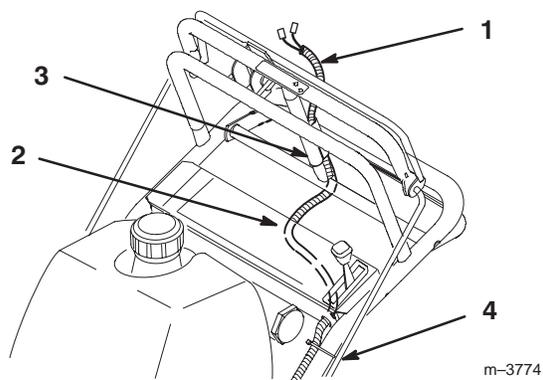

Figure 3
- Route wire harness inside of frame, along left handle and over throttle cable. Compress wire harness covering and press into lower and upper holes in rear of control panel (Fig. 3).
- Thread harness up through rear tube of traction handle (Fig. 3).
- Insert terminals into plastic plug until the clips snap into position (Fig. 3). If they do not snap turn around and try again.
- Push plug onto switch so latches interlock (Fig. 3).
- Secure wire harness and throttle cable to left handle, away from PTO lever, with wire tie (Fig. 3).